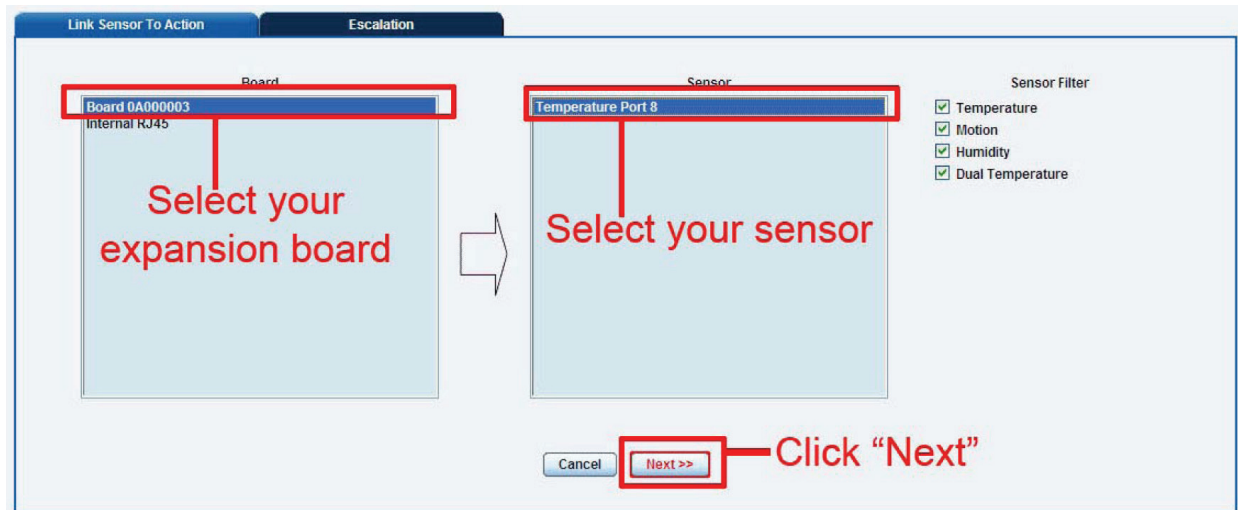

Figure 4-8. Select the expansion board, then select the sensor.
13. Select the sensor and SNMP trap parameters as before. Figures 4-8 and 4-9 appear. Select the expansion board, then select the sensor.